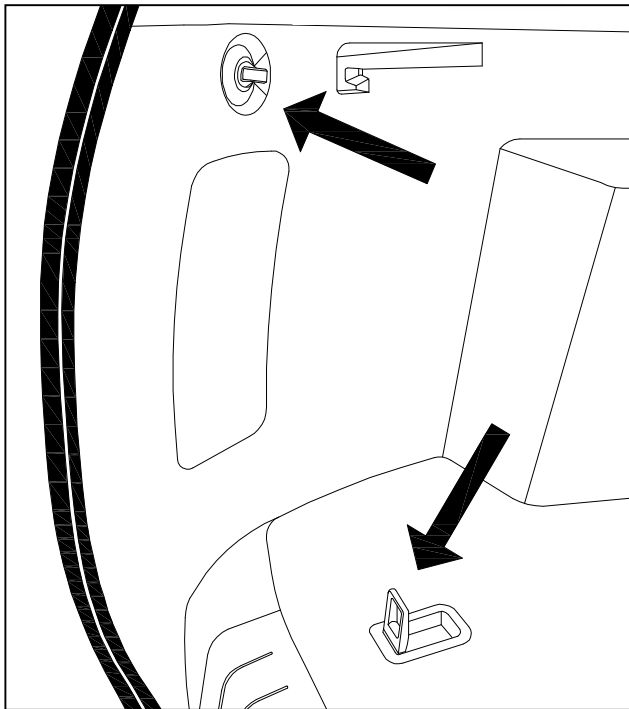

Fig. 1-1
- (a) Open vehicle rear cargo door and locate the vehicle net mounting points on the driver side of the cargo compartment. (Fig. 1-1)